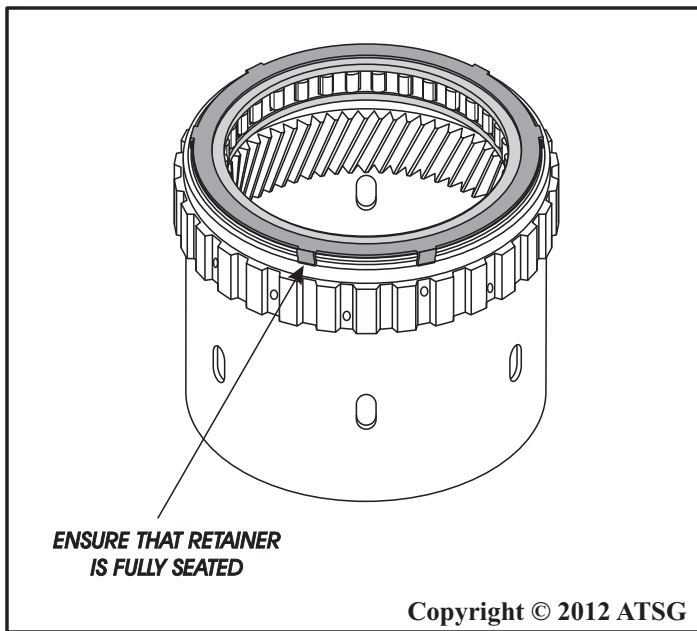

Figure 139
9. Ensure that low sprag retainer is fully seated, as shown in Figure 139, and check it the full 360 degrees.